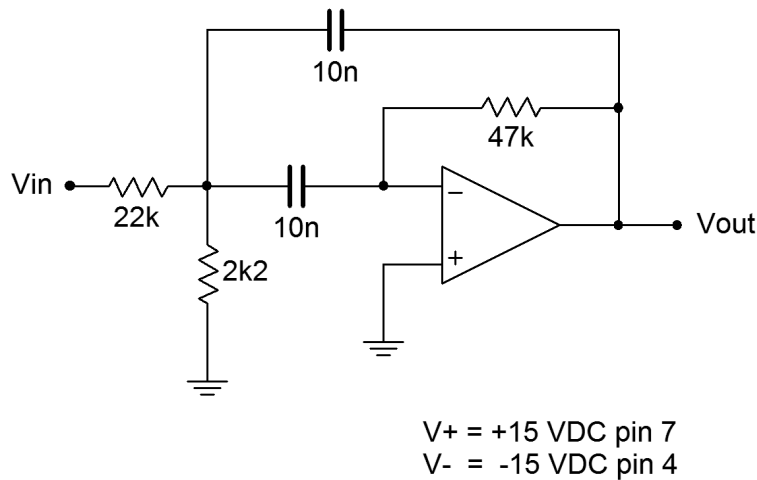

Figure 1
1. The circuit of Figure 1 is a second order band pass filter. Calculate and record the center frequency (f_0) and mid-band voltage gain in Table 1.
2. Assemble the circuit of Figure 1 using the medium speed op amp.
- Build the circuit of Figure 1 in a simulator and run an AC Analysis. Be sure to run the plot from 10 Hz to approximately 100 kHz and use a decibel scale for the gain amplitude. Compare the plot to the graph generated from Table 2.